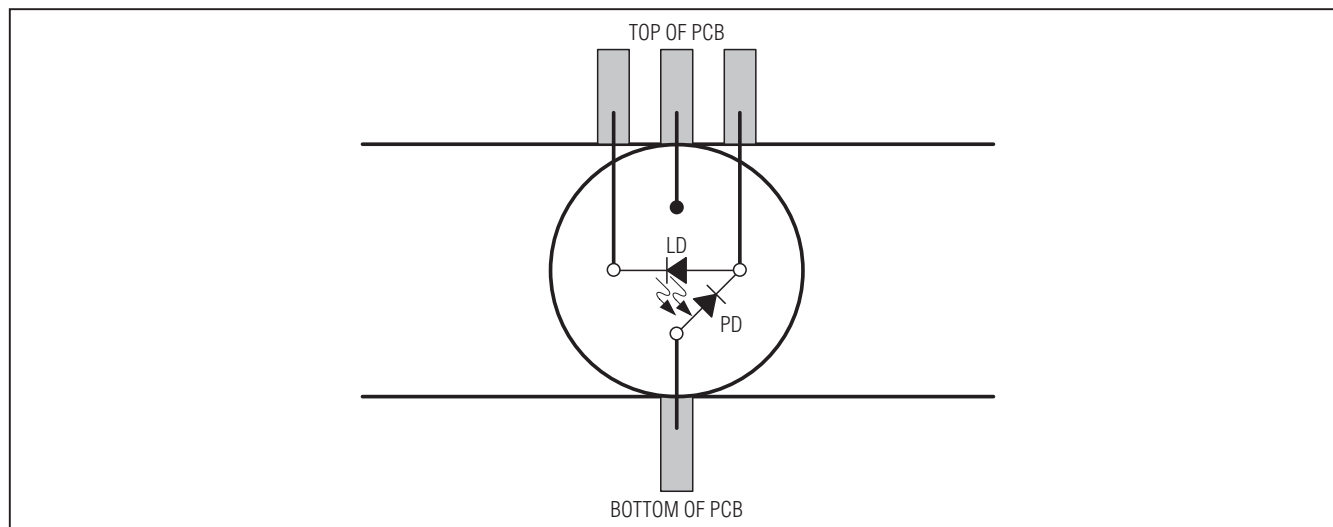

Figure 1. Laser Attachment
- 8) Solder a laser to edge connection D5. See Figure 1 for a view of how the laser should be mounted on the EV kit. Be sure to keep the laser leads as short as possible to minimize parasitic inductance.